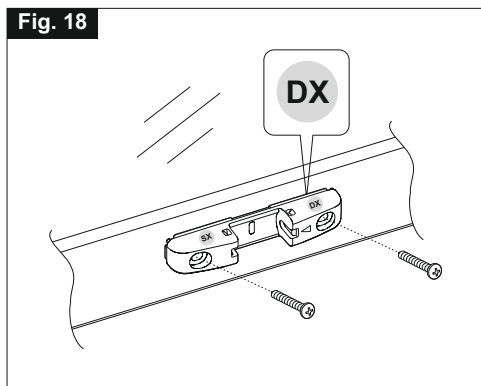

Fig. 19
- 6) **Fig. 19-** Align to the centre line the window frame connection bracket using as reference the indicator of the centre line (**Ref. 1**) located in the middle of the same;